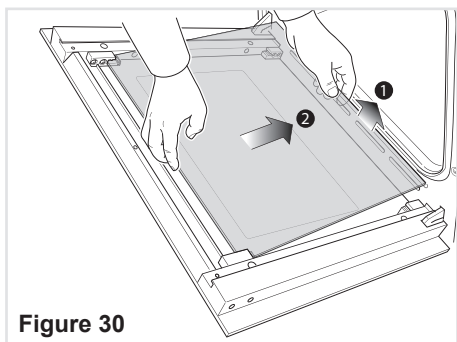

Figure 30
- Gently lift the bottom edge of the pane (arrow 1 in fig. 30) and remove it by pulling it out from the top clamps (arrow 2 in fig. 30).